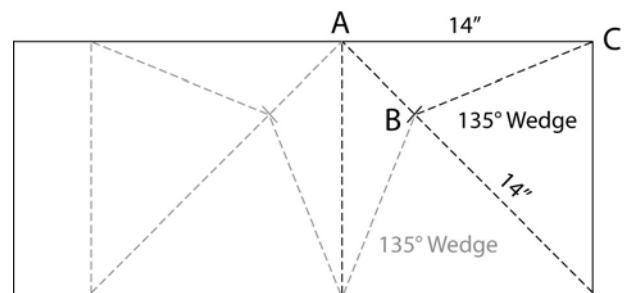

Fig. 1
2. Cut the 135° triangle wedge from the board. (See Fig. 1.)
3. Repeat steps 1 and 2 to create a second wedge. You need two (2) triangles for each angled corner to fit between two (2) adjacent angled partitions.